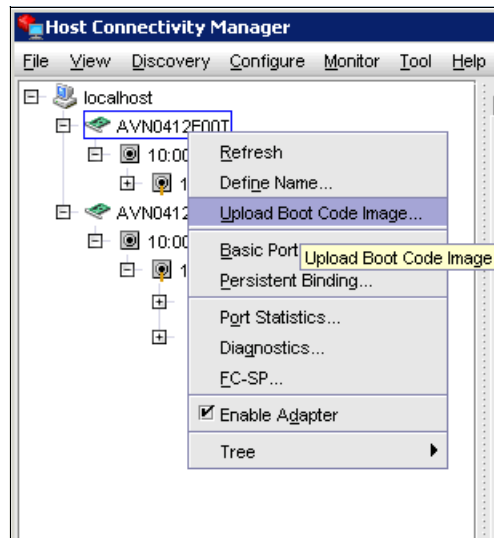

Figure 5-110 HCM Update HBA firmware
- ▶ Perform HBA firmware update, also known as Boot Code Image (Figure 5-110 on page 423).